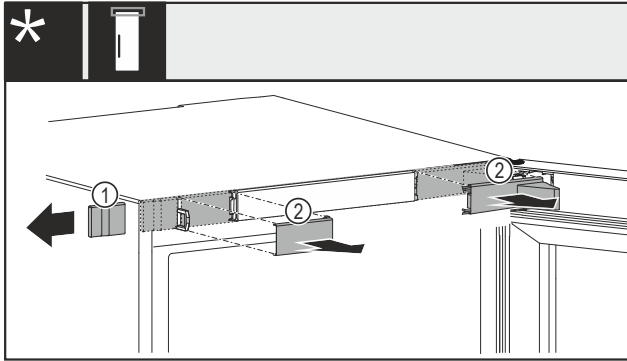

Fig. 14 With mechanical or electric lock*
- ▶ Carefully remove the cover Fig. 14 (1) from the side.*
- ▶ Carefully remove the covers Fig. 14 (2) towards the front.*